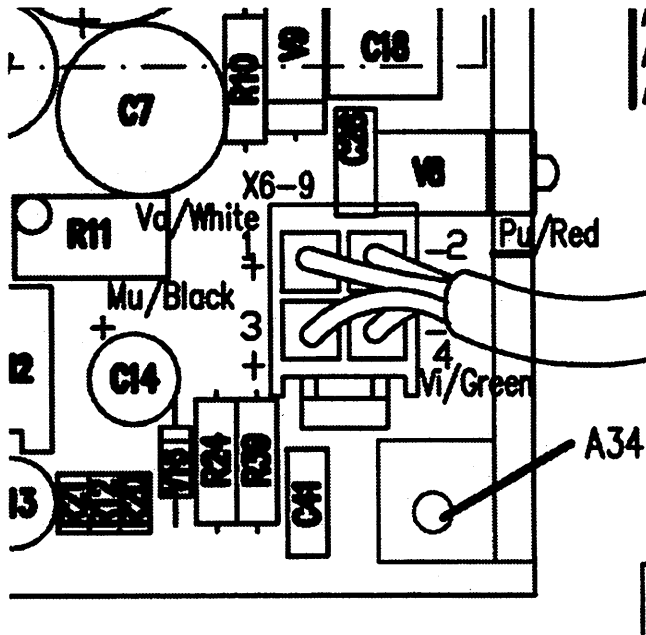

Figure 3 Output cable location
3. Solder PCA connector which came with new cable to the PCA as shown in figure 3.
Power adapter can be positioned in any position except upside down. Attach the adapter firmly to the structure of the transport vehicle using e.g. screws (figure 3).